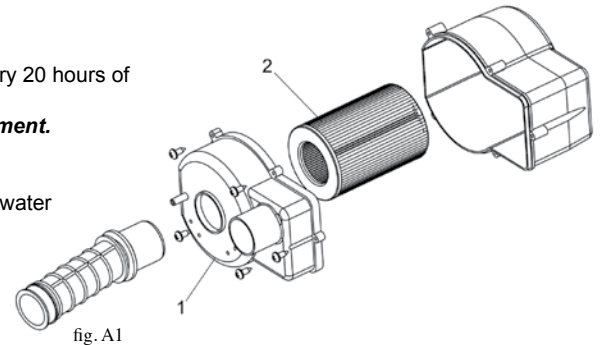

fig. A1
A. Air Cleaner *(see fig. A1)*
A. Front Wheel Replacement *(see fig. A1)*
B. Rear Wheel Replacement *(see fig. A1)*